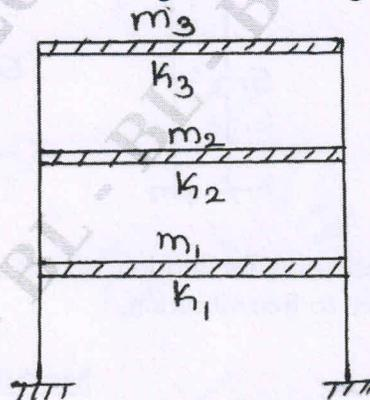

Fig.Q7
- 7 For shear building shown in Fig.Q7. Compute the natural frequencies and mode shapes. Given: Stiffness: $K_1 = 3 \times 10^6$ N/m, $K_2 = K_3 = 4 \times 10^6$ N/m